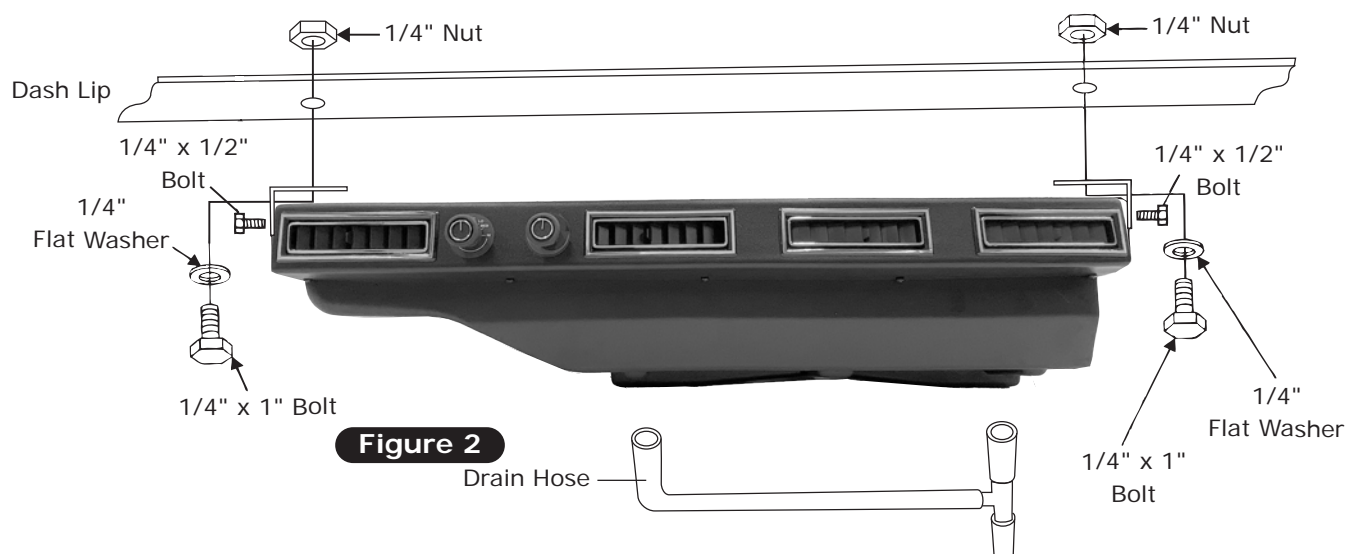

Figure 2
4. Secure the rear brackets to the cowl or firewall using (2) #8 x 1/2" sheet metal screws.
5. Attach the drain hose (See Figure 2, below) and drill a 9/16" diameter hole in the firewall, 1" below the bottom of the evaporator assembly.